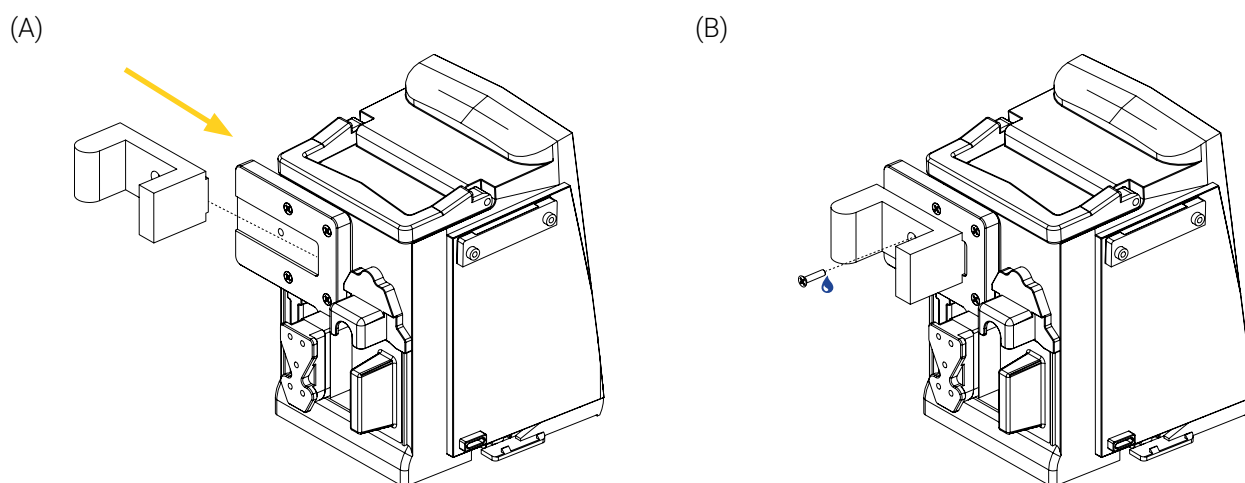

Figure 11: Installing the PCU Pole Clamp on the BP360–FQ
5. Insert the PCU Pole Clamp in the slot, then tighten reusing the screw previously set aside coated with medium strength thread lock adhesive (🔹) and a 9/64 in. hex key (Figure 11).